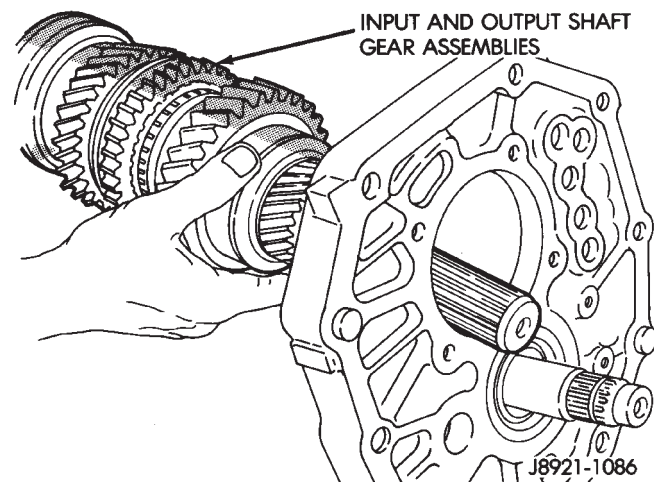

Fig. 56 Input And Output Shaft Removal
(4) Remove output shaft by rocking it lightly until rear bearing comes out of intermediate plate (Fig. 56).